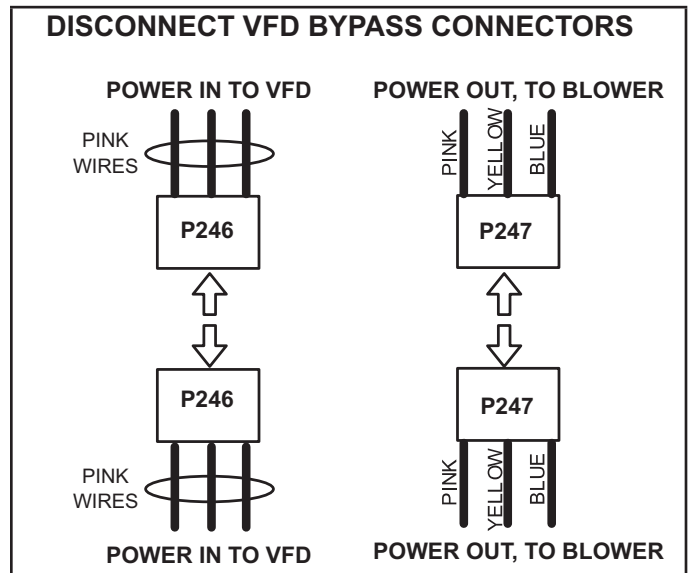

FIGURE 39
- 3 - Disconnect P246 from P246 (power in to VFD) and P247 from P247 (power out to blower). See figure 39.